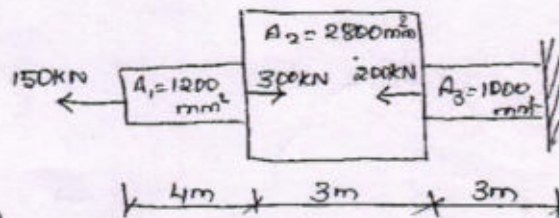

Fig.Q1(b)
- c. A stepped bar is subjected to forces as shown in fig. Q1(c). Determine the magnitude of force P. Also find the net deformation induced. Take $E = 210$ GPa. (08 Marks)
b. Evaluate the deformation of the bar, given, $E_1 = E_2 = E_3 = 200\text{GPa}$, refer Fig.Q1(b). (10 Marks)